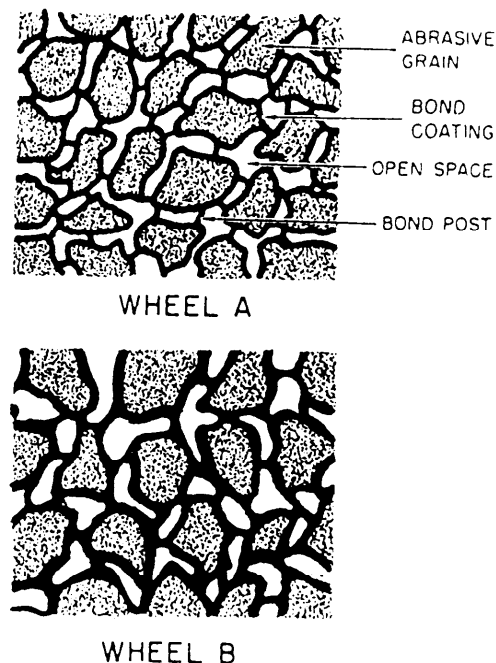

Figure 5-5.—How bond affects the grade of the wheel. Wheel A, softer; wheel B, harder.
the abrasive is soft or hard; it means that the wheel has either a small amount of bond (soft grade) or a large amount of bond (hard grade). Figure 5-5 shows magnified portions of both soft-grade and hard-grade wheels. You can see that a part of the bond surrounds the abrasive grains, and the remainder of the bond forms into posts that hold the grains to the wheel and hold them apart from each other. The wheel with the larger amount of bonding material (hard grade) has thick bond posts and offers great resistance to grinding pressures. The wheel with the least amount of bond (soft grade) offers less resistance.
4. Structure: The structure is designated by numbers from 1 to 15. It refers to the open space between the grains, as shown in figure 5-5. Wheels with grains that are very closely spaced are said to be dense; when grains are wider apart, the wheels are said to be open. Open-grain wheels will remove more metal faster than close-grain wheels. Also, dense, or close grain, wheels normally produce a finer finish. Structure makes up about 20 percent of the grinding wheel.